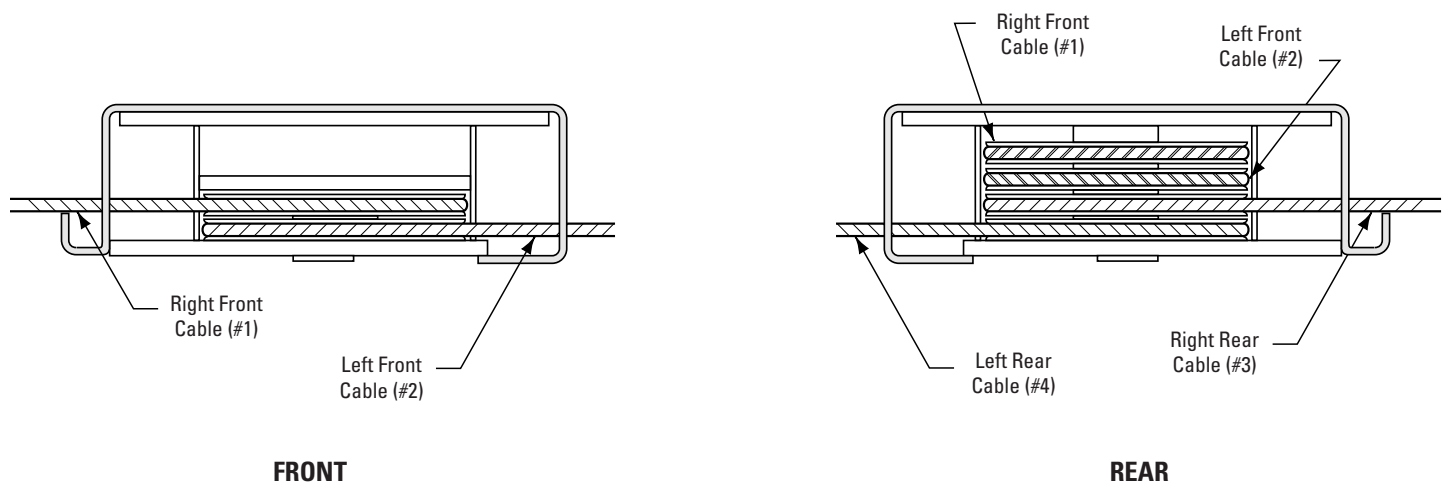

Fig. 3
- Position left runway in bay with hydraulic cylinder hose connection to front of bay. Cables and sheaves are pre-assembled in runway. Runway needs to be up off floor so shipping restraints can be removed from cable ends, air and hydraulic lines, and cylinder rod. Pull cable ends, air, and hydraulic lines out for assembly. Make sure cables are in proper sheave grooves, Fig. 3.